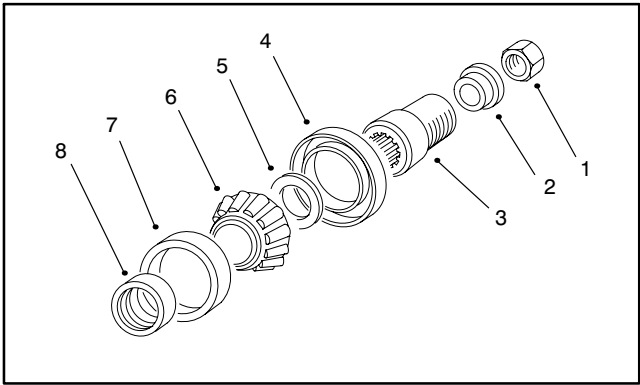

Figure 32
11. Install differential gear holder to carrier to retain spur gear (see Special Tools). Remove the nut, spacer, pinion coupler, and shim from the pinion shaft (Fig. 32). Remove differential gear holder from carrier.
13. Removing the drive pinion releases the spur gear, bearing spacer, and outer pinion bearing for removal (Figs. 32 and 34).
14. Remove oil seal from housing (Fig. 32).
11. Install seal into housing. Install the shim, pinion coupler, spacer, and nut onto the end of the pinion shaft (Fig. 32). Tighten pinion coupler nut to a torque of 75–90 ft-lbs (100–122 Nm). Remove differential gear holder and check pinion shaft endplay. If necessary, change shim to adjust pinion shaft endplay.